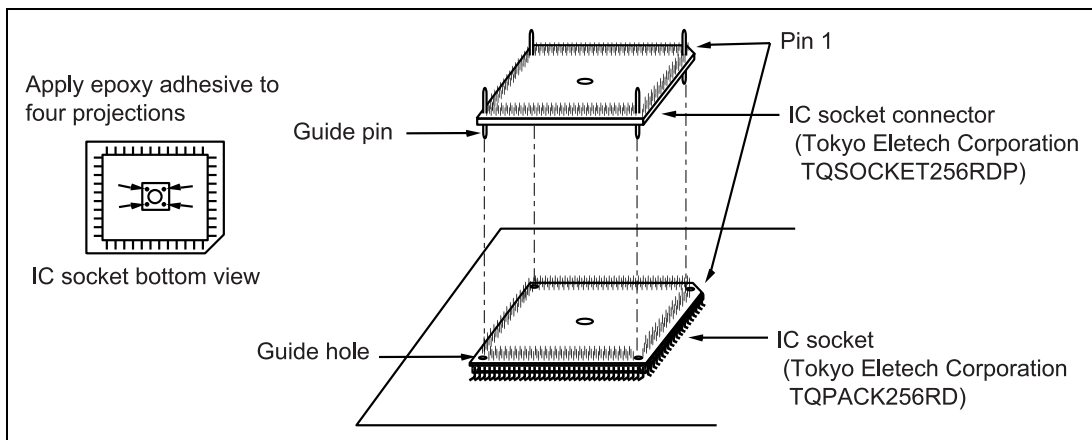

Figure 2 Installing IC Socket to User System
1. Solder the IC socket for an PRQP0256KB-A package to the user system (figure 2).
- After checking the location of pin 1 on the IC socket connector and pin 1 on the IC socket, align the guide pins on the IC socket connector with the guide holes on the IC socket, and insert the IC socket connector into the IC socket (figure 2).